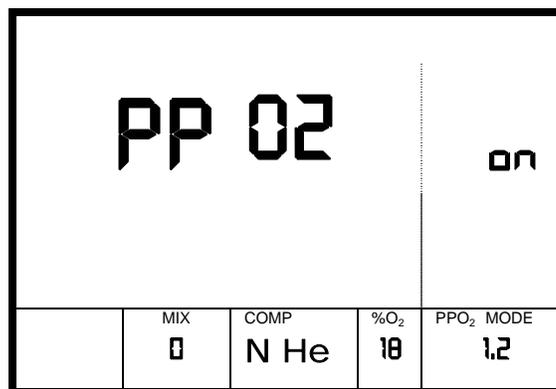

Fig. 1 Constant PPO2 MODE Setup
PPO2 Set Point. Set the Oxygen Partial Pressure (PPO2) to the same set point for which the rebreather is set. This step is skipped if PPO2 MODE is not active and for Mixes 5 through 9 which compute open circuit (OC) when PPO2 mode is active. Button B increments the set point by 0.1 ATA/Bar. The range is 0.4 to 2.0 ATA/Bar. Figure 1 illustrates the PPO2 setup indication.